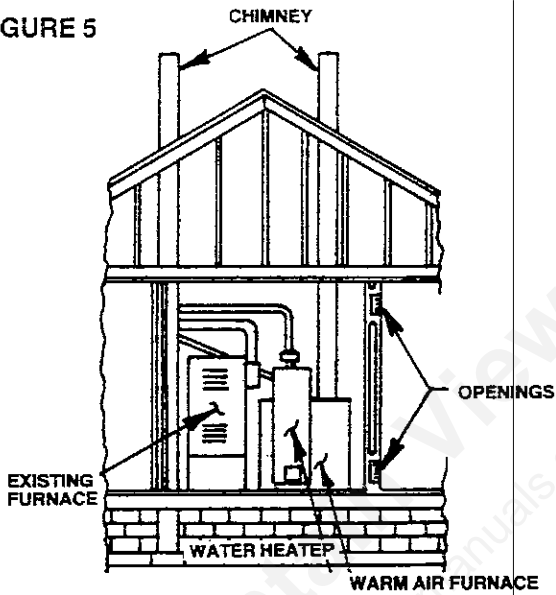

FIGURE 6
2. If all air for combustion is taken from outdoors, the confined space shall be provided with two permanent openings, one in or near the top of the enclosure and one in or near the bottom. The openings shall communicate directly, or by means of ducts, with the outdoors or to such spaces that freely communicate with the outdoors. (See figures 6, 7 and 8.)